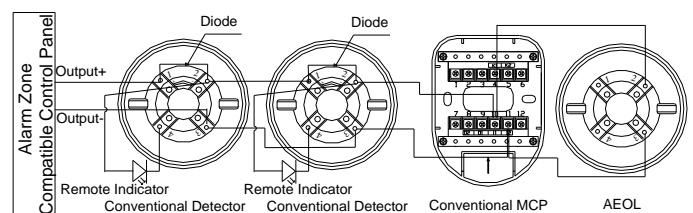

Fig. 5
- When the AEOL is not used as the detector base, a cover should be put. The system connection is shown in Fig. 5.